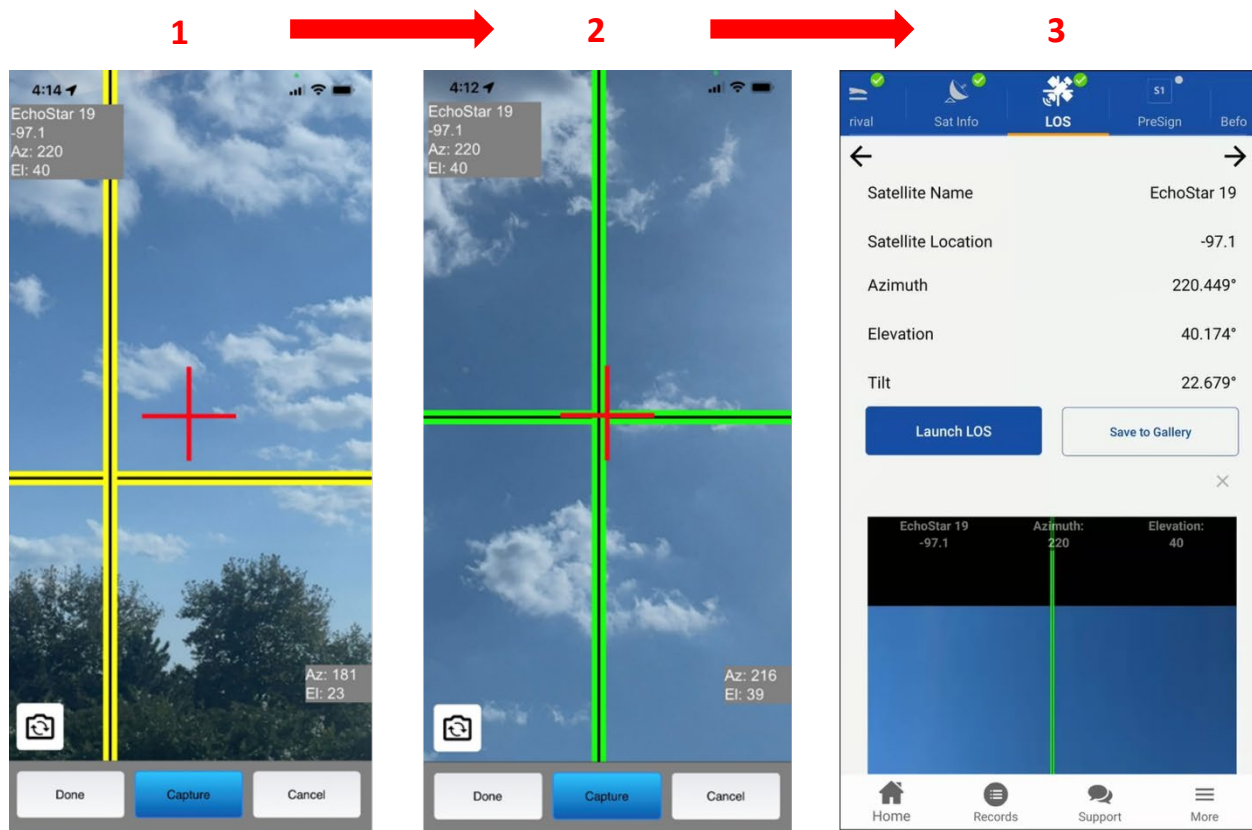

Figure 46: LOS step – Elevation
1. While holding your smart device parallel to the ground, orient the onscreen compass until the needle lines up with the correct azimuth reading. As shown in Figure 46, the compass needle and the vertical line turn green when your device is correctly oriented.